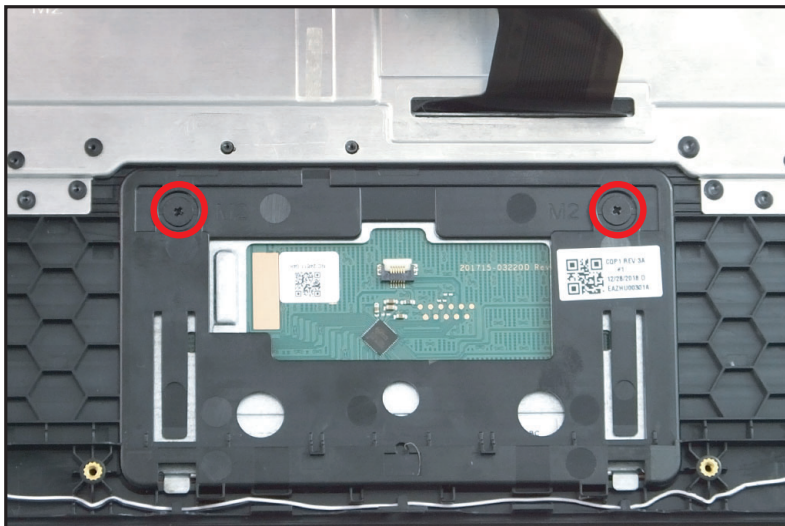

Figure 1-21. Touchpad Module Removal
5. Remove two (2) screws securing the touchpad module in place (Figure 1-21).